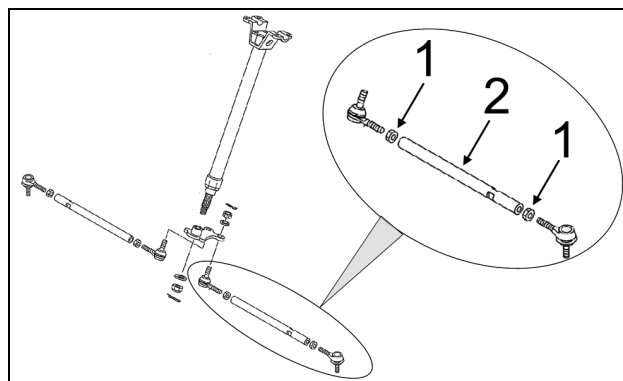

Figure 17
To adjust the ATV's steering system, first loosen coupling rod nuts (1), then screw or unscrew the coupling rod (2) an equal number of revolutions on both sides of the vehicle. Re-tighten nuts when adjustment is complete. See Figure 17.